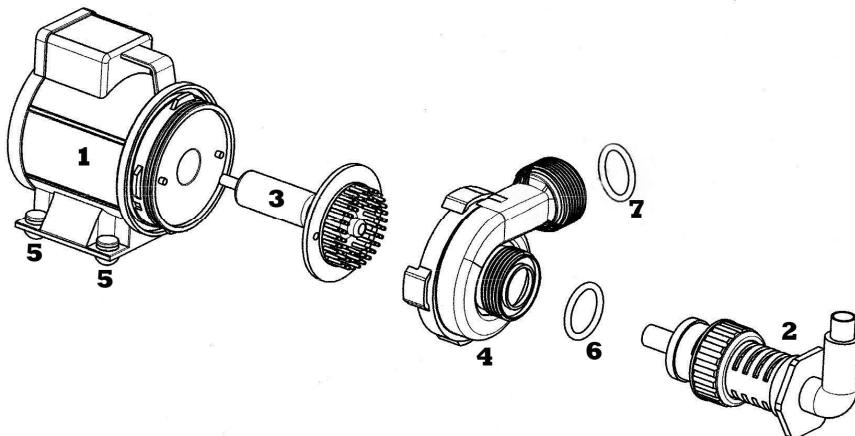

Fig. 3: Venturi pump
The pump head can be fitted into 4 positions of the pump housing. It must be fitted in such a way that the pressure fitting points to the side, as shown in Fig. 3.
At first, remove pipe connections and undo the bayonet on the pump housing. Now, the impeller assembly (Fig. 3) can be taken out. **Caution:** This part is tight fit and must be removed carefully so as not to break the ceramic shaft. It can be cleaned under running water and then re-assembled. If the rotor is completely dismounted, also the holes in the cover plate (Fig. 4) have to be cleaned. They provide for sufficient water cooling of the rotor. The drilling for the water cooling (Fig. 4, No. 1) in the ceramic axle has always to be free of deposits.
- Put the skimmer in the filter sump and check that the sealing rings (Fig. 3, No. 6 and 7) for the unions are in place.